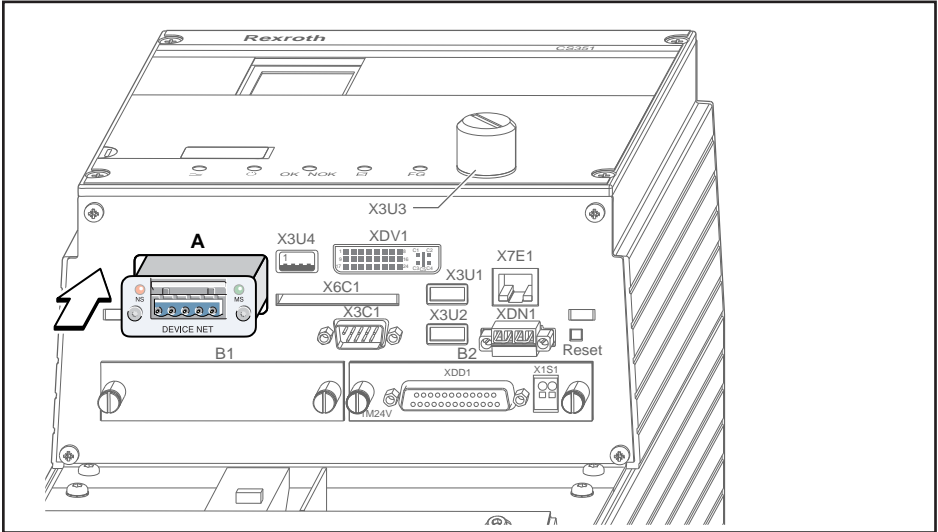

Fig. 3: Example: Slot A on the CS351 Compact System
2. Insert the IMdev interface module into the appropriate slot (A) on the system component until it catches (example in Fig. 3).